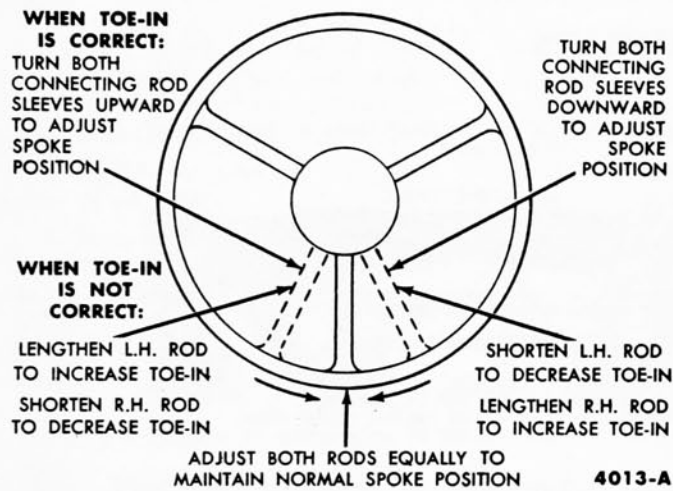
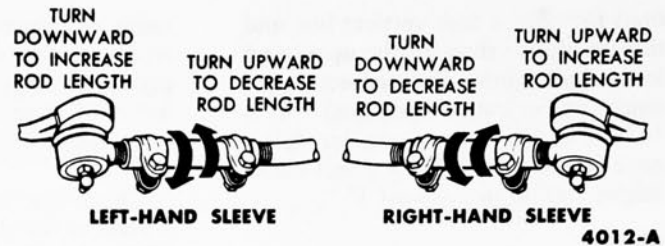

FIG. 6—Toe-in and Steering Wheel Spoke Alignment Adjustments
FIG. 5—Spindle Connecting Rod Adjustments
2. Adjust toe-in. If the steering wheel spokes are in their normal position, lengthen or shorten both rods equally to obtain correct toe-in (Fig. 5). If the steering wheel spokes are not in their normal position, make the necessary rod adjustments to obtain correct toe-in and steering wheel spoke alignment (Fig. 6).
3. Recheck toe-in and steering wheel spoke alignment. If toe-in is correct and the steering wheel spokes are still not in their normal position, turn both connecting rod sleeves upward or downward the same number of turns to move the steering wheel spokes (Fig. 6).